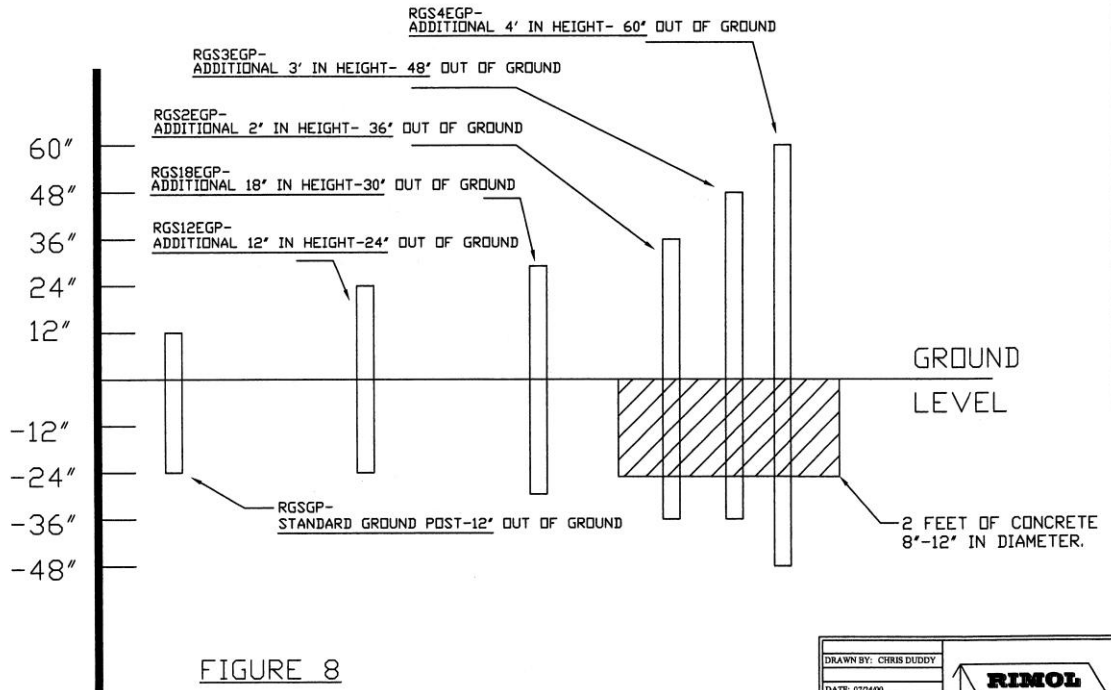

FIGURE 8
Refer to *Figure 8* if you have extended ground posts: RGS2EGP to RGS4EGP. Use of concrete footings is recommended.
Refer to *Figure 8* if you have extended ground posts: RGS2EGP to RGS4EGP.
Refer to *Figures 8 & 9* to complete this step. We recommend that you layout the half bows with the ends of the bows adjacent to the ground posts, and the tops of the bows pointing into and towards the back of the greenhouse. Place a ridge connector near the junction of the half bows. Start at the front of the greenhouse with (2) half end bows (they are distinguished by their predrilled holes [in three places on the 34' wide model, in two places on the 30' wide models as well as colored tips on all models] for purlin attachments; the intermediate bows do not have this feature).
- Start with the front end bow. Refer to *Figure 8*. Assemble two of **Item 1, Half End Bows** together by inserting them into **Item 20, Ridge Connector**. Align the predrilled holes in the ridge connector with the predrilled holes in the half end bows. Fasten the ridge connector to the half end bows using two each of **Item 10, Carriage Bolt (5/16 in. x 2 ½ in.)** and **Item 9, Hex Nut (5/16 in.)**. Insert carriage bolt through top of the ridge connector so that threads are inside the greenhouse. Thread hex nut onto bolt and *tighten*.